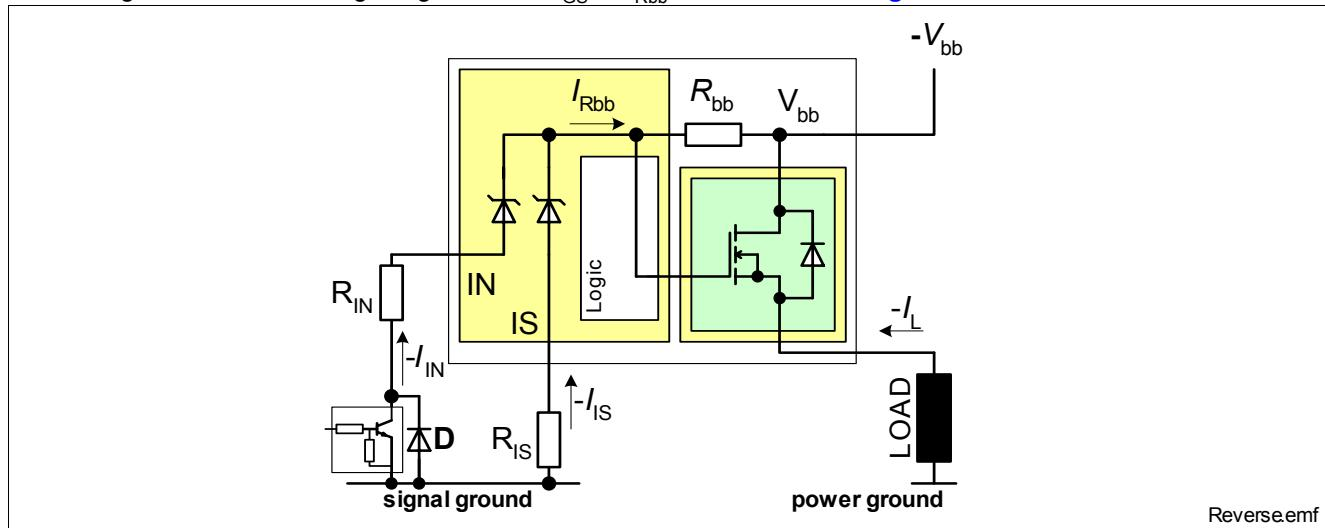

Figure 14 Reverse battery protection
4) Slew rate limitation can be achieved by means of using a series resistor for the small signal driver or in series in the input path. A series resistor R_{IN} in the input path is also required for reverse operation at $V_{bb} \leq -16\text{V}$. See also Figure 14.
The device can not block a current flow in reverse polarity condition. In order to minimize power dissipation, the device offers Reversafe® functionality. In reverse polarity condition the channel will be switched on provided a sufficient gate to source voltage is generated $V_{GS} \approx V_{Rbb}$. Please refer to Figure 14 for details.